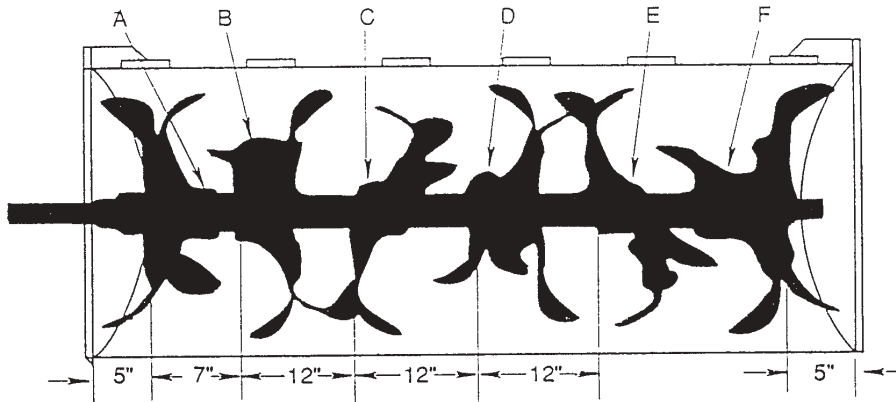

Figure 1
1. Starting with the L.H. Rotor Assembly A, Figure 1, with blades assembled as in figure 2, place a 2-Blade Rotor Half in position on top of shaft, hub of rotor to right and face of blade approximately 5" from inside of housing end. Insert 3/4" carriage bolts with heads up and attach 4-Blade Rotor Half with hub to right as shown. Tighten in place.
2. Rotate shaft 1/4 turn backward (top blades toward you). Again place a 2-Blade rotor Half into position B, Figure 1, with hub to your right.